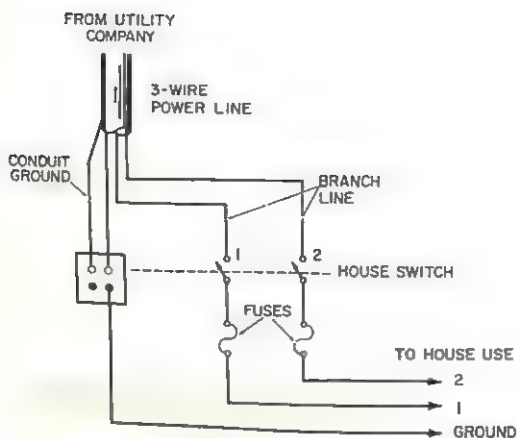
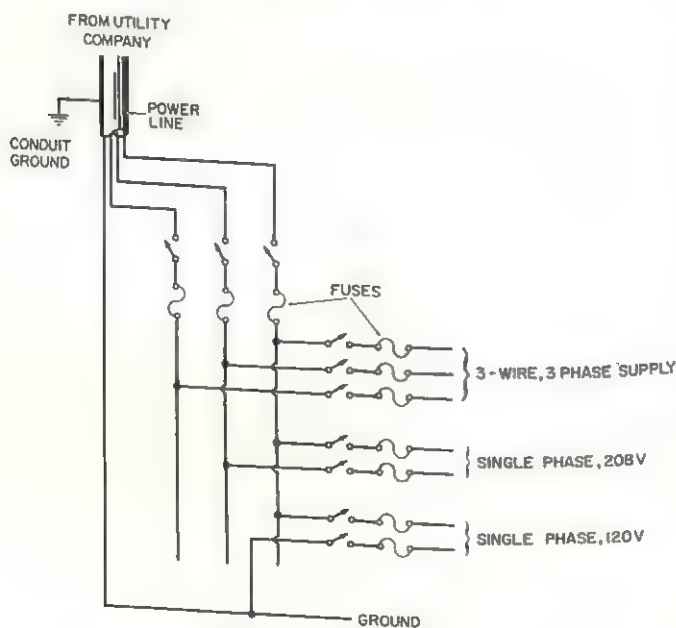

Fig. 3-1. Single-phase electrical service.
Fig. 3-2. Three-phase electrical service.
*Phase*—Electricity is delivered to users as single- or three-phase service. Homes, offices, stores, and small industrial plants use single-phase service (Fig. 3-1), which requires special motors capable of starting by themselves. In larger industrial plants, the more expensive three-phase service is used (Fig. 3-2), permitting simpler motor design and smoother operation.